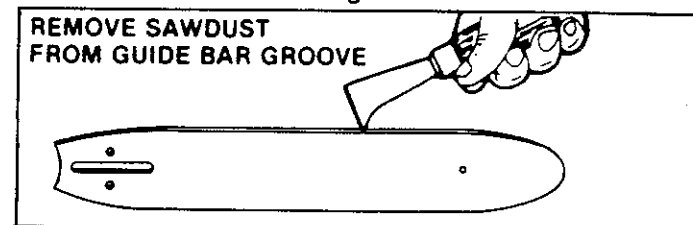

Figure 36
- c. Remove sawdust from the guide bar groove periodically with a putty knife or a wire. Figure 36.